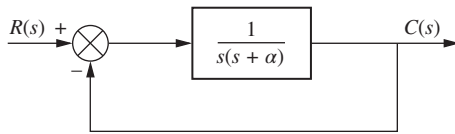

FIGURE I-8.2
7. Root loci are usually plotted for variations in the gain. Sometimes we are interested in the variation of the closed-loop poles as other parameters are changed. For the system shown in Figure I-8.2, sketch the root locus as α is varied. [Section: 8.8]